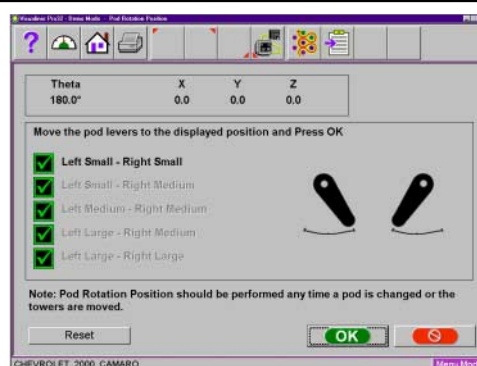

Figure 26
- Continue the process until all camera positions have been checked. After the final rotation lever has been checked click on the **<Cancel>** button to exit. (Figure 26)